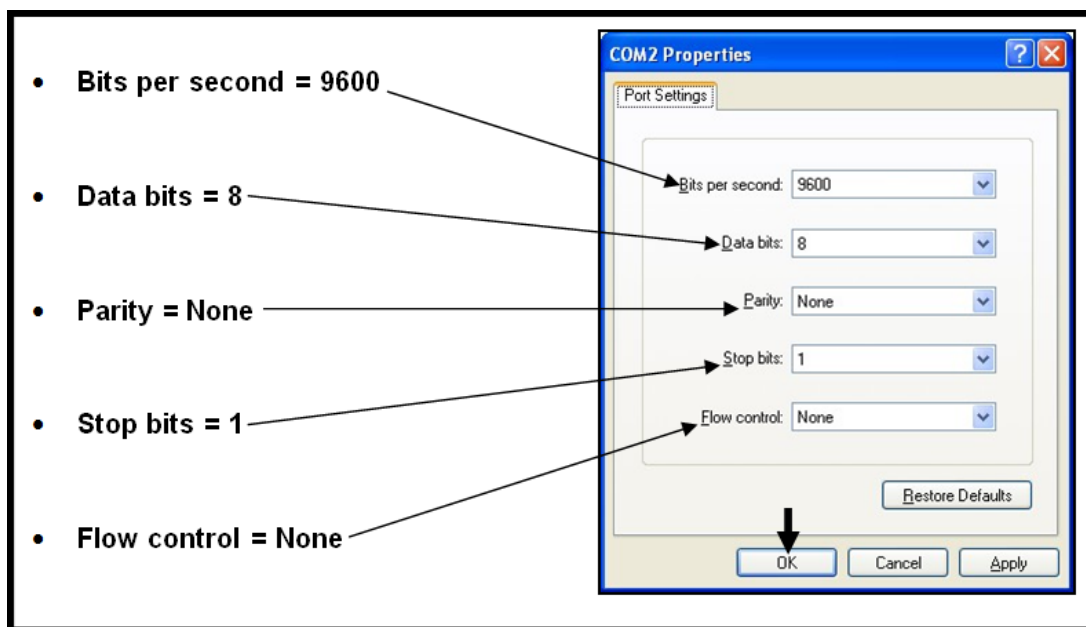

Fig. 4.6
- 6) On the following screen, verify or change the settings as needed so that they are as follows, then select **OK** (Fig. 4.6).